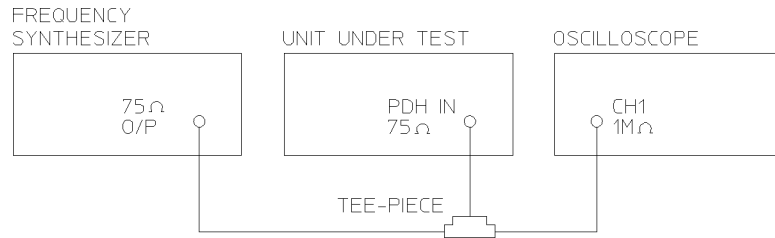

Figure 3-21
2. Connect up the equipment as shown in Figure 3-21.